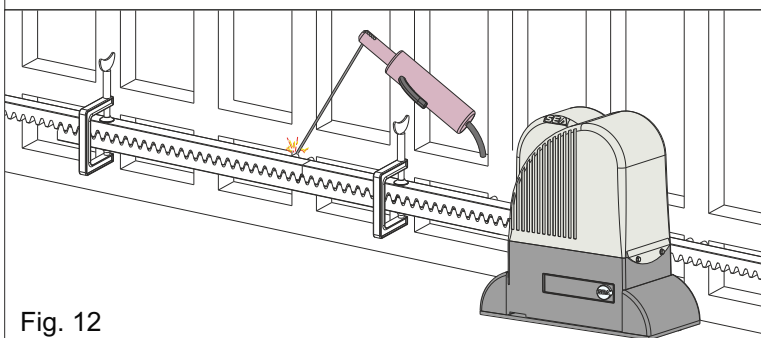

Fig. 12
- 5.4. Make sure that all the gear rack elements are perfectly aligned and correctly placed (**the teeth must be in phase**). It is suggested to oppose an element to two aligned elements as shown in Fig. 12;